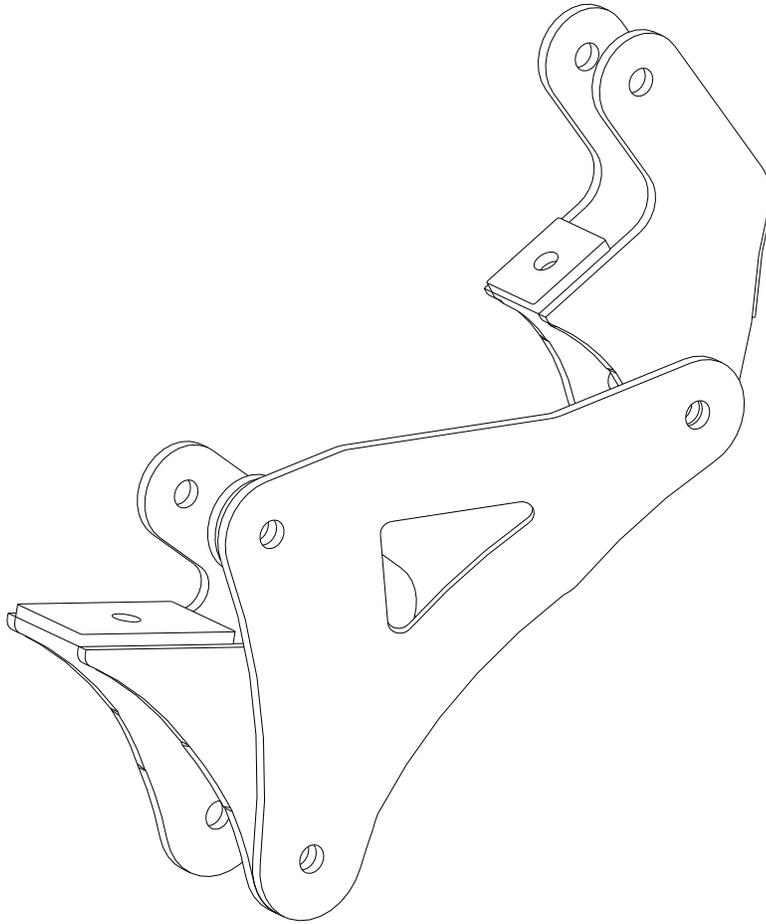

Figure 1: Driver side control arm re-location brackets. ← Front of vehicle
- 8) Referring to Figure 1, mount the Cognito Motorsports upper and lower control arm brackets to the factory 4-link bar frame mounts with the factory hardware that was previously removed. Use the 1/2" x 1 1/2" bolts and hardware from Hardware package #9042 to fasten the nose of the upper control arm brackets to the bottom side of the frame. Use the 9/16" x 1 3/4" bolts and hardware from Hardware package #9042 to fasten the nose of the lower control arm brackets to the bottom side of the frame.
- 9) Using the rest of the 9/16" hardware from package #9042, assemble the control arms in the Cognito brackets and the tie in plates on the outside of the Cognito brackets as shown in Figure 1. Tighten all hardware in this step.